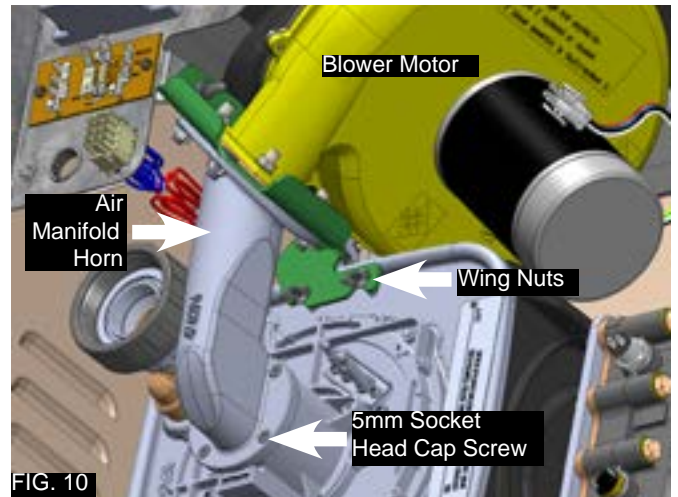

FIG. 10
- Loosen the Wing Nuts (x2) on the blower bracket. Remove the Blower Motor and set aside. Next, Using an Allen wrench, Remove the socket head Cap screws (x4) that secure the Air Manifold (horn) to the burner manifold assembly and Remove. Set aside. (Fig 10, 11).